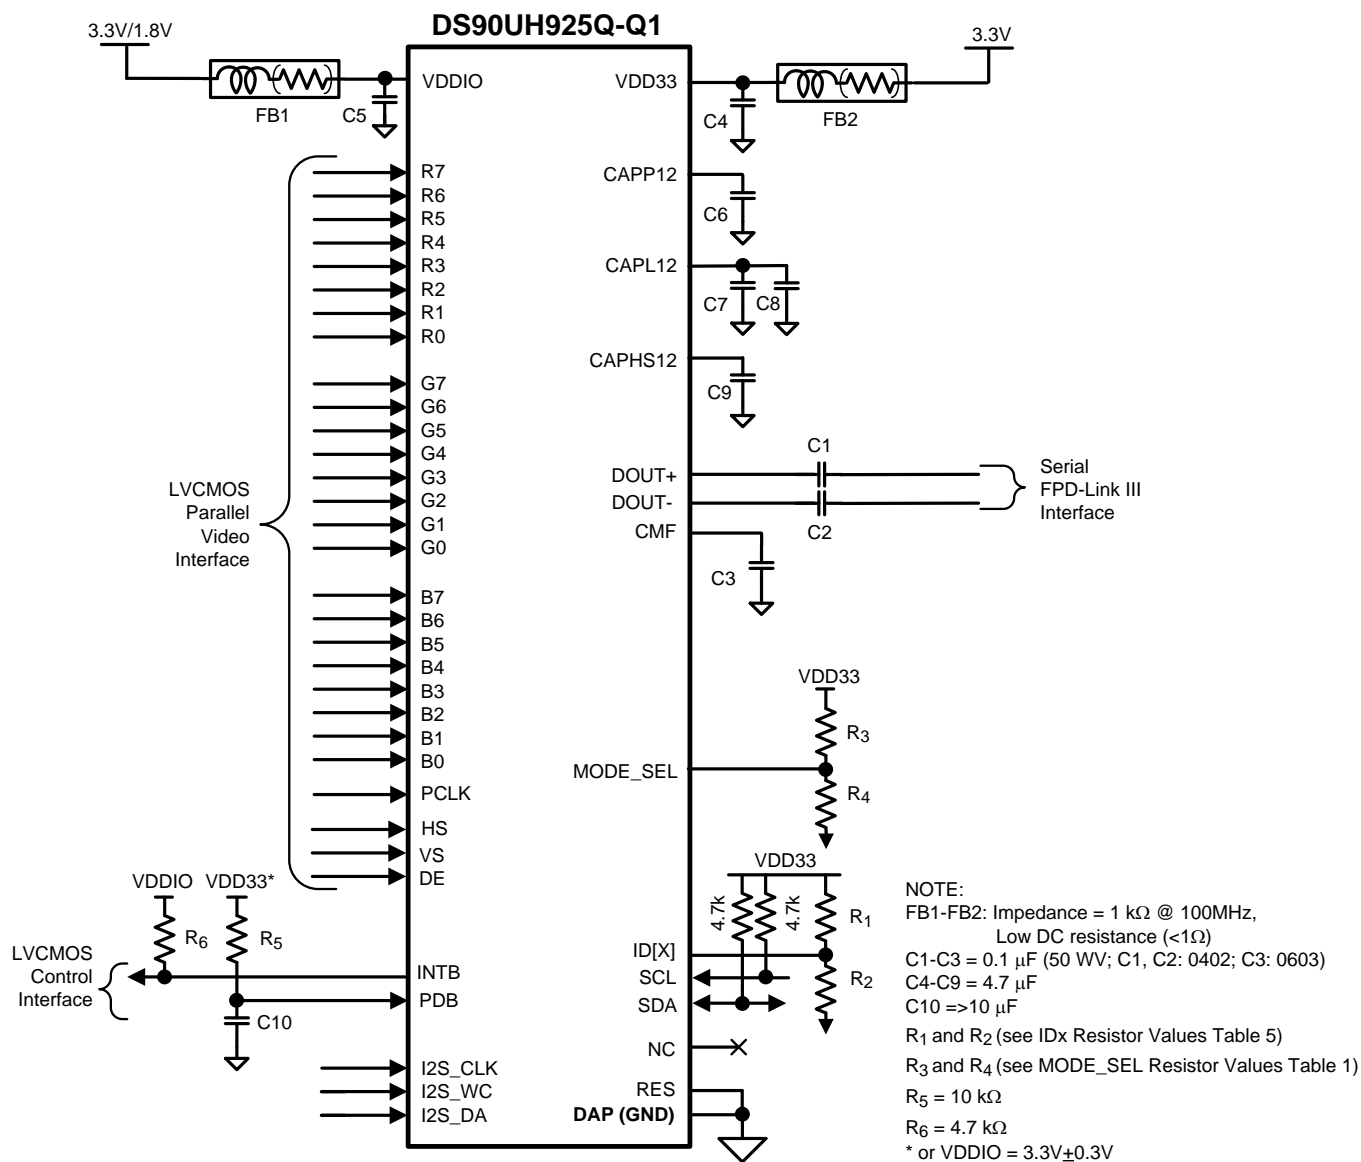

Figure 23. Typical Connection Diagram
Figure 23 shows a typical application of the DS90UH925Q-Q1 serializer for an 85 MHz 24-bit Color Display Application. The CML outputs must have an external 0.1 µF AC coupling capacitor on the high speed serial lines. The serializer has an internal termination. Bypass capacitors are placed near the power supply pins. At a minimum, six (6) 4.7µF capacitors (and two (2) additional 1µF capacitors should be used for local device bypassing. Ferrite beads are placed on the two (2) VDDs (V_{DD33} and V_{DDIO}) for effective noise suppression. The interface to the graphics source is with 3.3V LVCMOS levels, thus the V_{DDIO} pin is connected to the 3.3 V rail. A RC delay is placed on the PDB signal to delay the enabling of the device until power is stable.